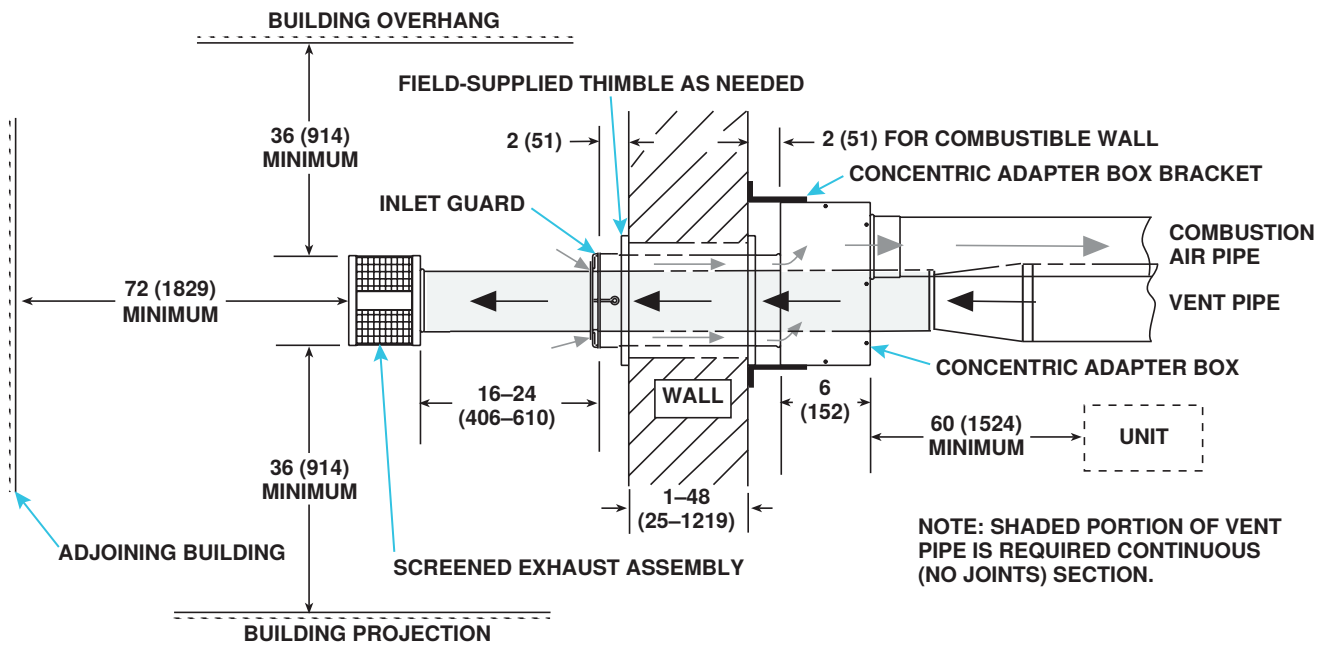

Figure 24. Option CC6 Installation
4. Secure longer angles on concentric adapter box brackets (see Figure 24) to concentric adapter box.
5. Connect outside section of combustion air pipe to concentric adapter box (see Figure 24):
6. Secure concentric adapter box to wall (see Figure 24):
- b. Secure short angles (see Figure 24) of concentric adapter box brackets to wall.
- a. Position inlet guard over end of combustion air pipe in accordance with Figure 24.
- a. Refer to Figure 24 to determine lengths of each pipe segment and to calculate total length required. Transition to single-wall or Category III vent pipe run must be made maximum of 6 inches (152 mm) from heater side of box.
- d. Ensure that screened exhaust assembly is aligned so that its baffles are positioned at 12, 3, 6, and 9 o'clock (see Figure 24). Install screened exhaust in accordance with Figure 8.
10. Verify compliance with Figure 24 and with all specific venting requirements listed above.